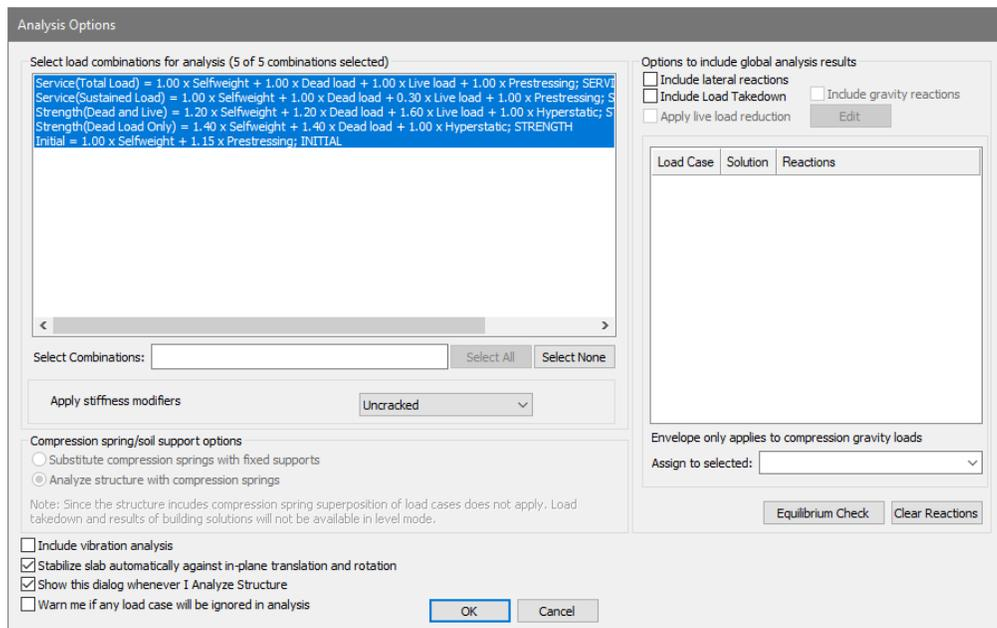

Figure 8-40
- Go to *Analysis* → *Analysis* and click the *Execute Analysis*  icon, this will open the window shown in **FIGURE 8-40**.